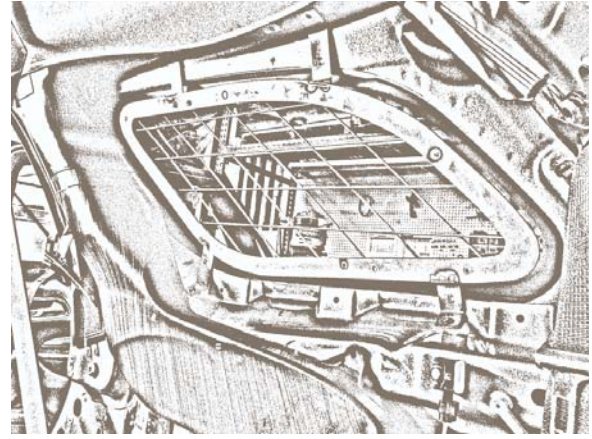

Figure 7
H. Drive mounting screws (3X72) to secure frame (Fig 7).